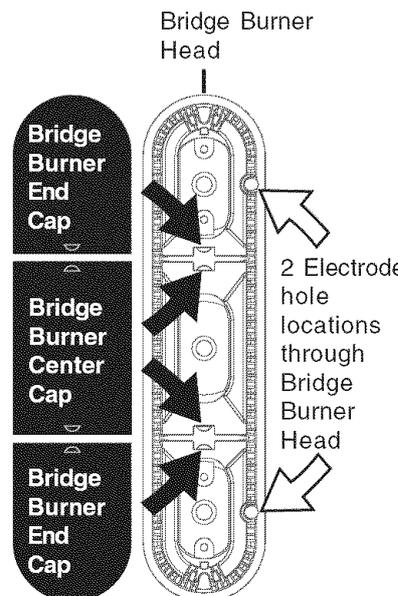

Fig. 6
- Replace Bridge Burner Caps. These include 1 Bridge Burner Center Cap (rectangular shaped) and the 2 Bridge Burner End Caps (The Bridge Burner End Caps will fit at either the front or rear Bridge Burner Head locations). Make sure that the tabs located under the Bridge Burner Caps fall into the slots located in the Bridge Burner Head (See black arrows in Fig. 6) and that the Bridge Burner Caps lie flat and evenly on top the Bridge Burner Head.